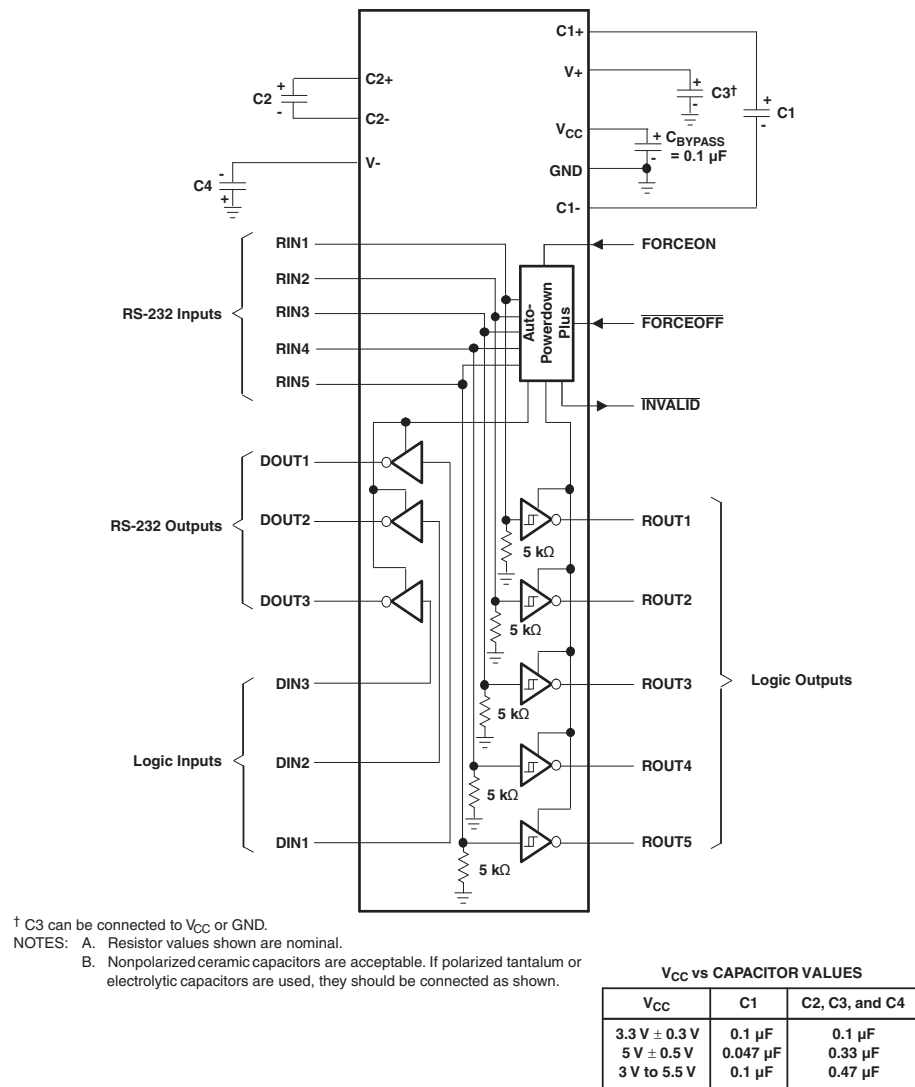

Figure 8. Typical Operating Circuit and Capacitor Values
ROUT and DIN connect to UART or general purpose logic lines. FORCEON and $\overline{\text{FORCEOFF}}$ may be connected general purpose logic lines or tied to ground or V_L . INVALID may be connected to a general purpose logic line or left unconnected. RIN and DOUT lines connect to a RS232 connector or cable. DIN, FORCEON, and $\overline{\text{FORCEOFF}}$ inputs must not be left unconnected. For proper operation, add capacitors as shown in Figure 8.
- Use capacitors as shown in Figure 8
V_{CC} must be between 3.3 and 5 V. Capacitors must be selected according to the table in Figure 8.